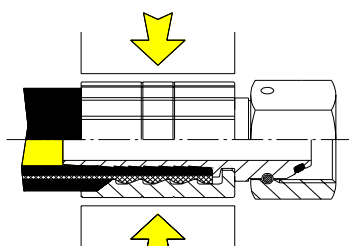

Fig.5
4. Press the ferrule onto the hose with the suitable machine up to the crimping diameter indicated in the assembly tablesheets (Fig. 5).
5. Press the ferrule onto the hose with the suitable machine up to the crimping diameter indicated in the assembly tablesheets (Fig. 5).